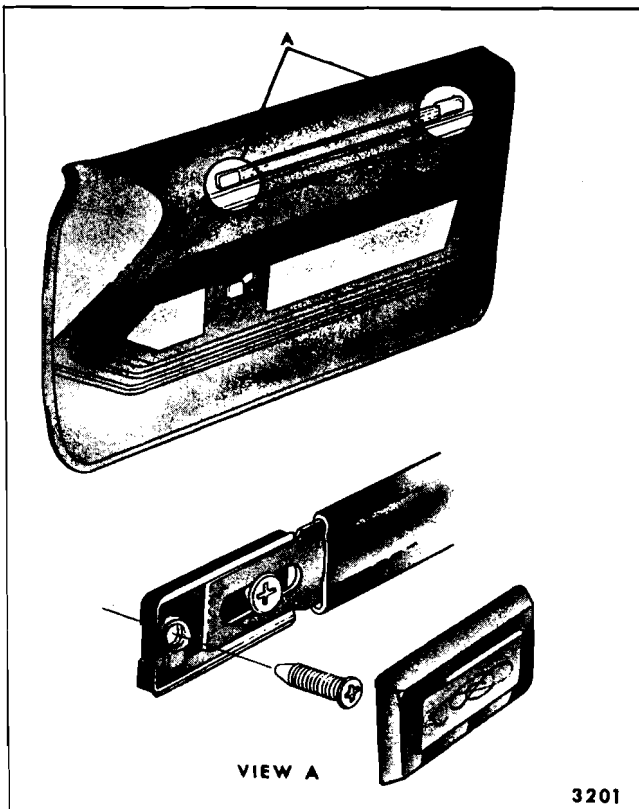
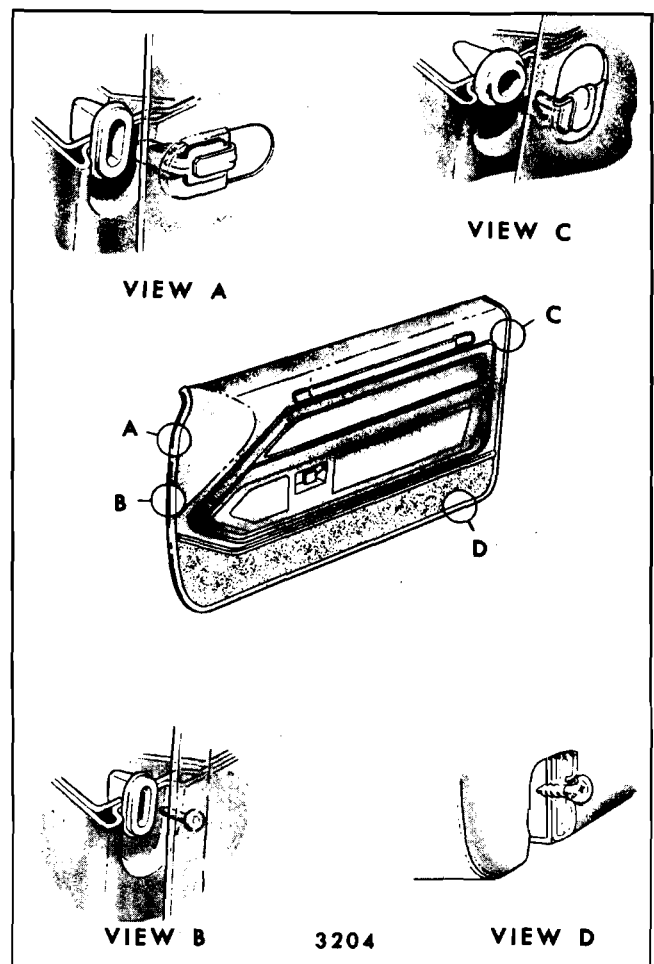

Fig. 14-2—Door Pull Handle Attachment - Cadillac Styles
Fig. 14-11—Various Types of Door Trim Retention
To remove the door trim assembly on any style with a door pull handle requires removal of the screws inserted through the handle hinges or handle base into the door inner panel. On styles with snap-on escutcheons covering the handle screws, carefully disengage the escutcheons from the retainers using a flat-bladed tool (Fig. 14-2).
and by screws across the bottom (Fig 14-11 is a composite illustration of the various types of door trim panel fasteners). On some upper series styles, additional retention is obtained from arm rest and pull handle attaching screws, which protrude through the trim assembly into the door inner panel (Fig. 14-2).
13. Starting at a lower corner, insert tool J-6335 or J-9886 between door inner panel and trim assembly. Working upward, carefully disengage retaining nails or clips from plastic cups inserted in door inner panel (Fig. 14-11).